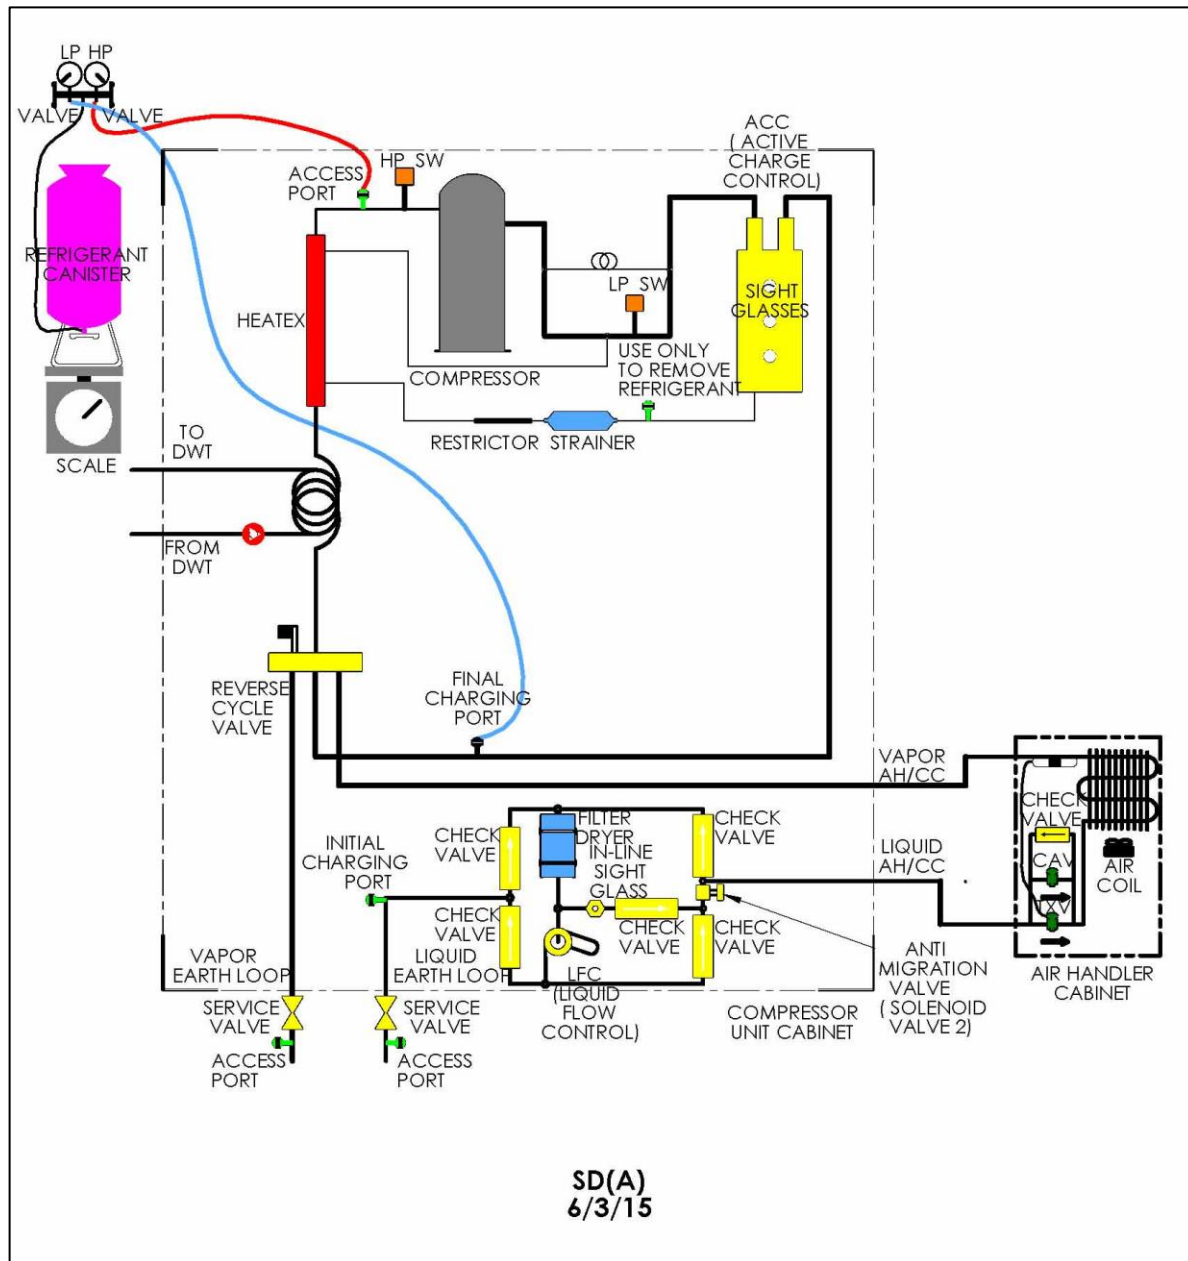

Figure 28. Final Charge of SD(A) System
2. Crack open the LP valve on the manifold gage set so that a small amount of refrigerant gas flows to purge the hose. Connect the hose to the final charging port, shown in Figure 28. Tighten the hose to the final charging port and turn off the LP valve when the hose connection is secure.
7. With the liquid refrigerant level at the middle sight glass, attach and insulate a temperature clamp or probe securely to the earth loop vapor line at the compressor unit service valve shown in Figure 28. Read the measured temperature. Also read the LP gage pressure on the manifold gage set. Use a pressure/temperature chart (Figure 34) to verify that the system is operating at saturation, meaning that no superheat is measured on the earth loop vapor line. To verify this, the measured vapor line temperature should be within $\pm 3^{\circ}\text{F}$ of the saturation temperature read from the chart for the measured LP gage pressure. If the measured temperature is out of this range, contact ETI technical support at 1/863-701-0096.